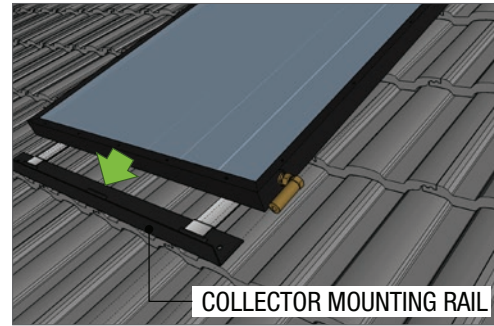

Fig 5
6. Position the collector on the collector mounting rail (Fig 5)